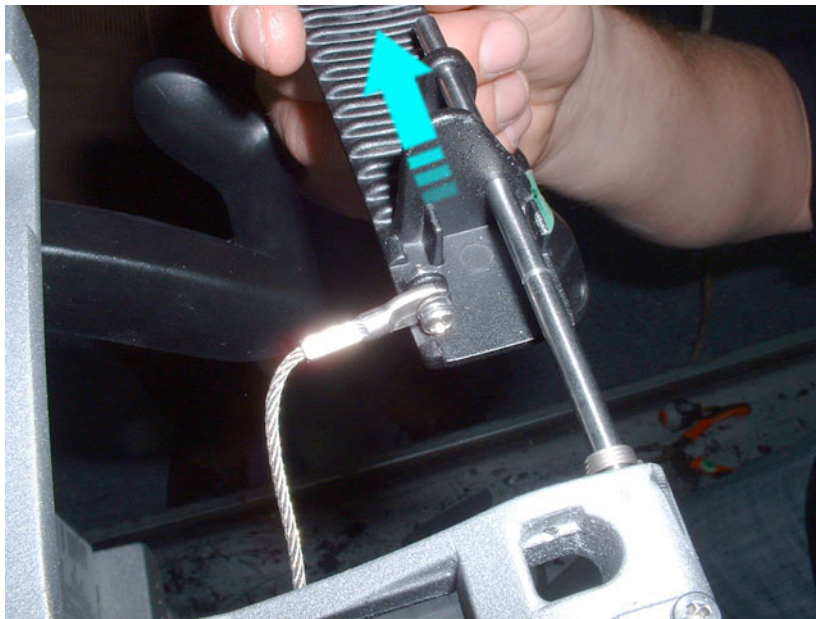

Figure 8-237 Release Cable and Slide Handle Sideways
- 7.) Disconnect the up-down/swivel cable from the handle to be replaced and slide the handle sideways to remove it from the supporting shaft - Figure 8-237.